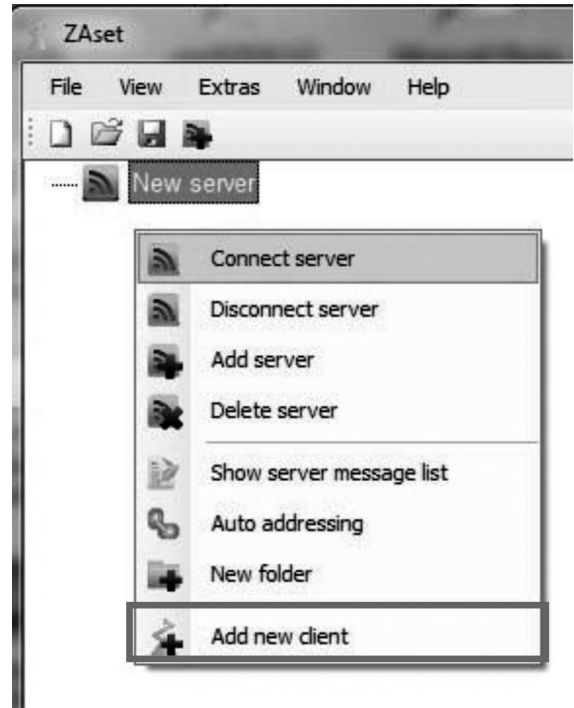

Fig. 7 — ZA “Add New Client”
2. Select “**Add new client**” (see Fig. 7).